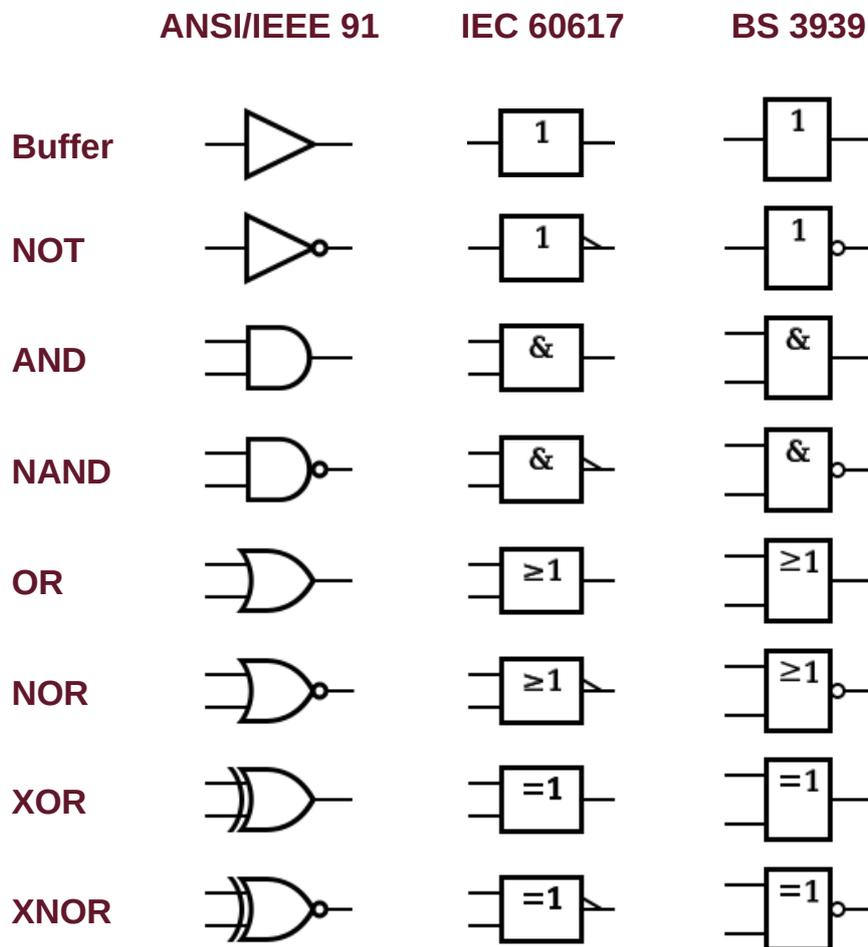

Figure 44: Logic Gates
Figure 44 shows the American National Standards Institute (ANSI)/Institute of Electrical and Electronics Engineers (IEEE) and Military Specification (MIL), known as ANSI/IEEE 91, the International Electrotechnical Commission (IEC), IEC 60617 and the British System (BS) BS 3939 symbols for the eight major logic gates: NOT, AND, NAND, OR, NOR, XOR, XNOR and the buffer.